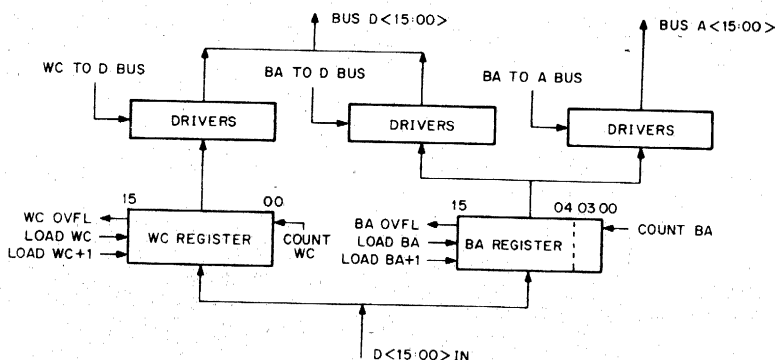

Figure 6-16 M795 Word Count and Bus Address (block diagram)
A simplified block diagram of the M795 module is shown in Figure 6-16. Both the word count (WC) and bus address (BA) registers consist of 16 flip-flops. These flip-flop registers can be loaded by placing data on the 16 data line inputs common to both registers and asserting the appropriate loading signal. There are four independent loading signals: WC high byte, WC low byte, BA high byte, and BA low byte. Each of the outputs of the 16 bits in the WC register are connected to a set of DEC 8881 UNI-